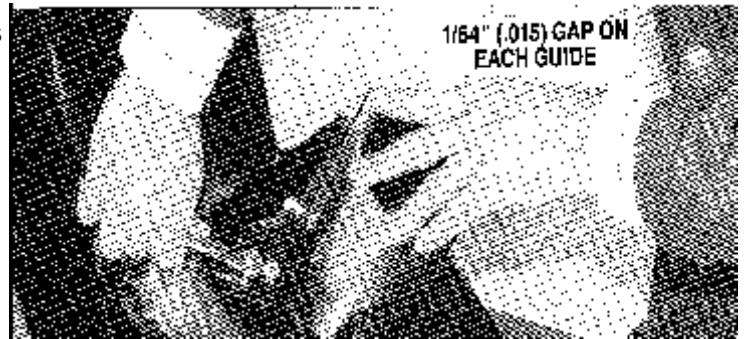

FIG. 5
**LOOSE GUIDES** - If guides loosen or are too tight against the side of the shell, adjust each guide so it is approximately .015 (1/64:) away from the edge of the shell. Retighten each guide when the adjustment is complete. (See FIG. 14) Cup is to be centered in hole opening within .06 (1/16"). See FIG. 5 and 8